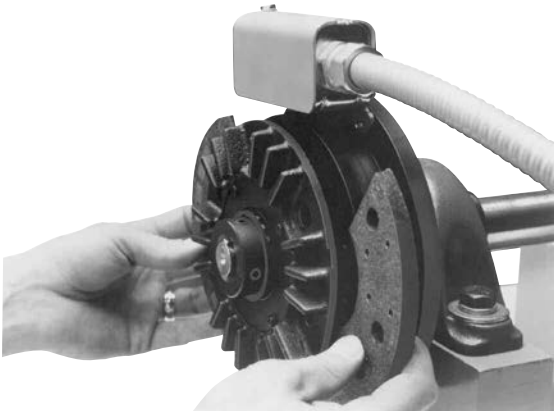

Figure 5
5. Lift out the worn friction material segments. Assure that the autogap plate, detent ring and spring remain in place on the clutch units during this step. (See Figure 5)